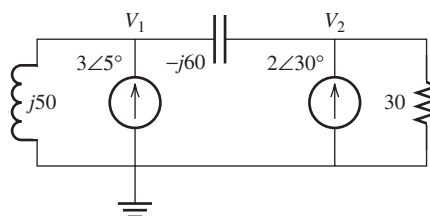

FIGURE P6.35 Circuit for Problem 6.35.
- 6.35 (A) Find node voltage V_1 and V_2 in Figure P6.35.